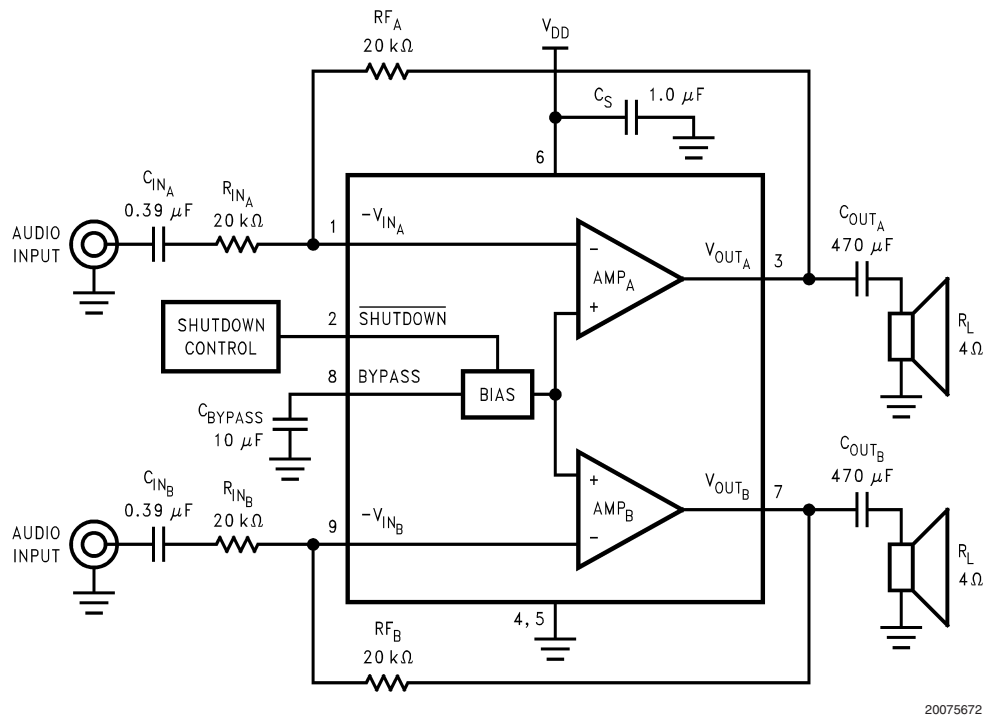

FIGURE 3. Typical LM4940 Stereo Amplifier Application Circuit
As shown in Figure 3, the input resistor ( $R_{\text{IN}}$ ) and the input capacitor ( $C_{\text{IN}}$ ) produce a high pass filter cutoff frequency that is found using Equation (7).
As an example when using a speaker with a low frequency limit of  $50\text{Hz}$ ,  $C_{\text{IN}}$  using Equation (7) is  $0.159\mu\text{F}$ . The  $0.39\mu\text{F}$   $C_{\text{INA}}$  shown in Figure 3 allows the LM4940 to drive high efficiency, full range speaker whose response extends below  $30\text{Hz}$ .